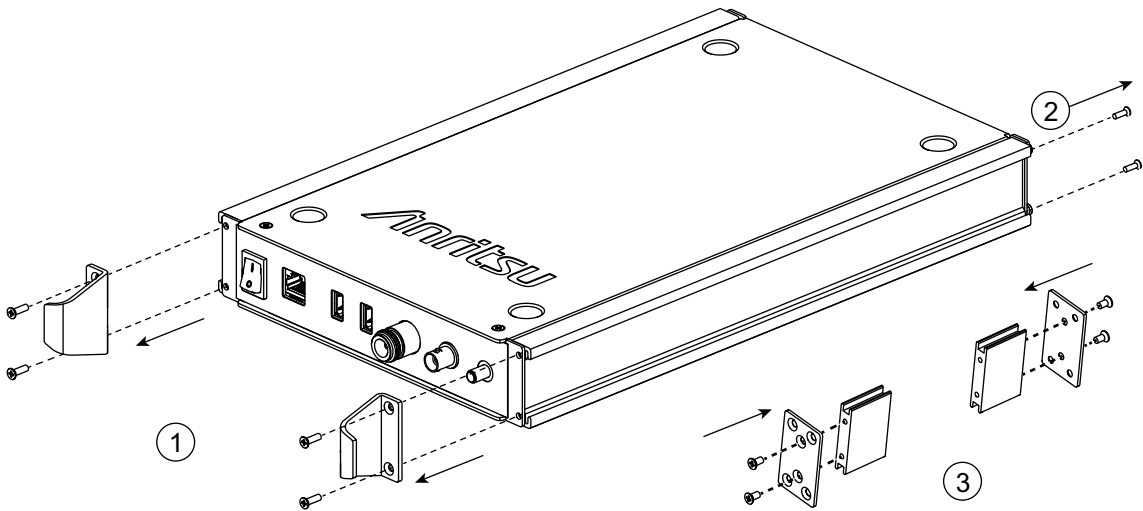

Figure 1-5. Preparing the MS27101A for Side-by-Side Rack Mounting
1. Prepare both MS27101A instruments by removing the front panel handles and inside rear panel screws as shown in Figure 1-5 (1 and 2). Retain the screws.
2. Assemble the inside mounting bracket as shown in Figure 1-5 (3)